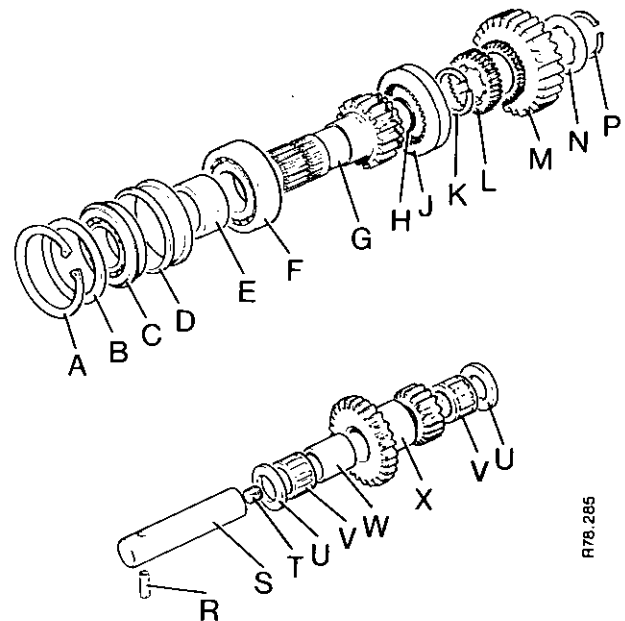

FIGURE 79. SLOW/NORMAL GEARS 1410 TRACTOR TRACTOR
2. Remove the circlip A and washer B, Figure 79, which holds the front bearing for the input shaft assembly in position.
4. Remove the circlip K, Figure 79, from the front of the topshaft. Move the dog clutch gear L, forward as far as possible.
14. Remove the driven gear M, Figure 79, dog clutch gear, slow/normal selector and fork, high/low and first/reverse jaws.
Remove the bearings and distance piece from the layshaft. See Figure 79.